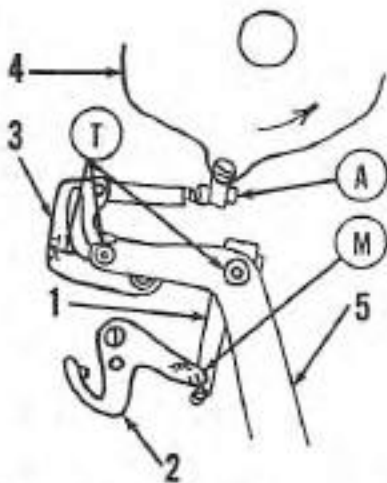
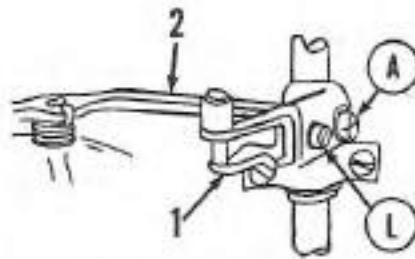
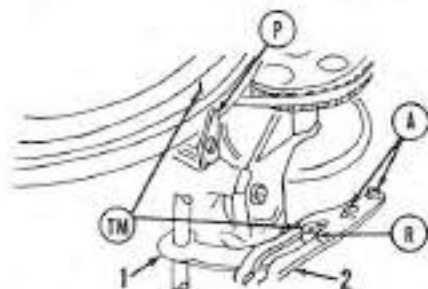

Fig. Mc106 — Schematic view of speed control mechanism used on two cylinder motors with dual carburetors. Refer also to Fig. Mc107.
Fig. Mc107—Throttle actuating mechanism used on two cylinder models. Refer also to Fig. Mc106.
Fig. Mc109 — Schematic view of spark advance mechanism used on all three cylinder models. Refer to Fig. Mc110 for throttle mechanism.
40 HP and Royal Scott Motors With Dual Carburetors: Refer to Figs. Mc106 and Mc107. First adjust the ignition advance by moving the speed control lever to "Slow" position and shift lever to "Neutral." Move speed control lever toward "Fast" position until magneto stator plate (4—Fig. Mc106) strikes the neutral stop. (Speed control should be in "Fast Idle" position). With stator plate against the neutral stop, the TDC mark on the spark advance cam should be aligned with center of spark advance roller and tower shaft as shown at (7). If the TDC mark is not aligned, shorten or lengthen the spark control link (A).
To synchronize the throttle for each of the carburetors, loosen the length and angle adjusting screws which secure the throttle actuator arm (1) to the tower shaft (See Fig. Mc107). Check to make sure that the ignition timing marks (7—Fig. Mc106) are aligned as shown. Position the actuator arm (1), using both adjusting screws, until the actuator roller contacts the outer mark (6) on throttle cam (2), then tighten the length (rear) adjusting screw. Turn the angle (rear) adjusting screw until the actuator roller moves up cam (2) to the second (TDC) mark. Adjust the throttle actuator arm for the second carburetor in the same manner.
All Three Cylinder Models: Refer to Figs. Mc106, Mc109 and Mc110. First adjust the distributor timing by using a test light such as that shown in Fig. Mc108. Remove the spark plugs and turn the flywheel until "TDC" timing mark (TM—Fig. Mc109) is aligned with timing pointer (P) as shown. Loosen the two screws (A). Make sure the contact points are properly adjusted to 0.015 as outlined in IGNITION SYSTEM paragraph. Attach one clip of the test light to the primary terminal of the distributor, ground the other clip, then move the breaker plate back and forth to the point where the test light bulb just goes out. Position the spark advance cam (2) and cam roller (R) so that roller is centered in the timing marks (TM), then tighten the screws (A). To